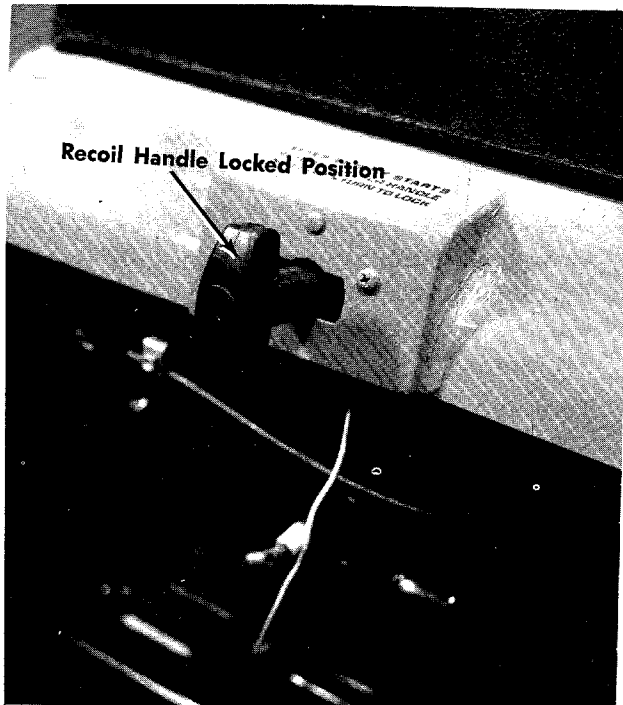

FIGURE 8. RECOIL HANDLE
The key must be turned to the ON position before you pull the recoil handle to start the engine. Remove the key when the mower is not in use. Turn the key to the left to the OFF position to stop the engine. See figures 8 and 9.
6. Turn the ignition key to the ON position. Twist the recoil starter handle until it is free and pull it with a quick steady motion. After the engine starts, return the recoil starter handle. Twist it until it locks. See figures 8 and 9.